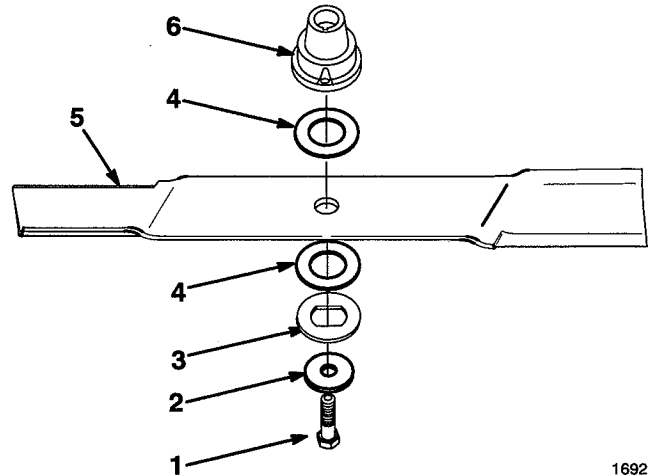

Figure 22
5. **REMOVING BLADE**—Grasp end of blade using a rag or thickly padded glove. Remove blade bolt, washer, retainer, shim, blade, shim and blade retainer (Fig. 22).